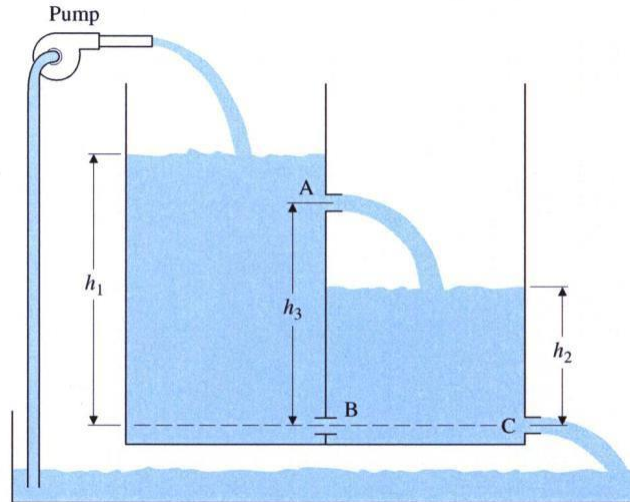

Fig. 2.60 Two-tank fluid-flow system for Problem 26
26. A laboratory experiment in the flow of water through two tanks is sketched in Fig. 2.60. Assume that Eq. (2.93) describes flow through the equal-sized holes at points A, B, or C.